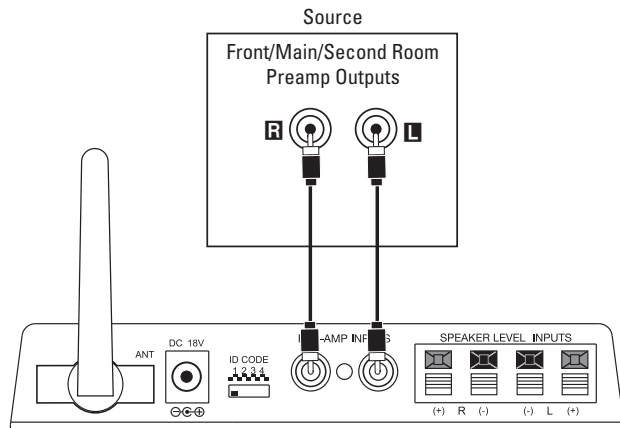

Figure 1.
Connect the interconnect cable (included) to the left and right front/main preamp outputs, zone 2 outputs or REC outputs, and the inputs on the transmitter module ③, as shown in Figure 1.